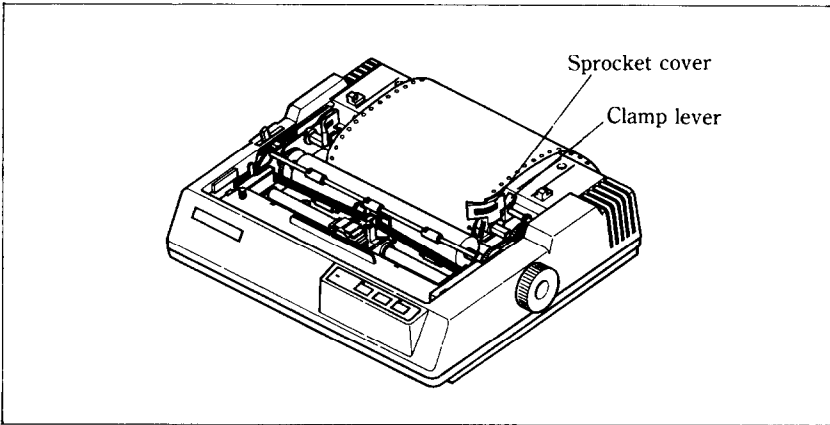

Figure 2-8. Open the sprocket covers to expose the sprocket teeth.
4. Open the sprocket covers, on the right and left sprocket units, as shown in Figure 2-8.